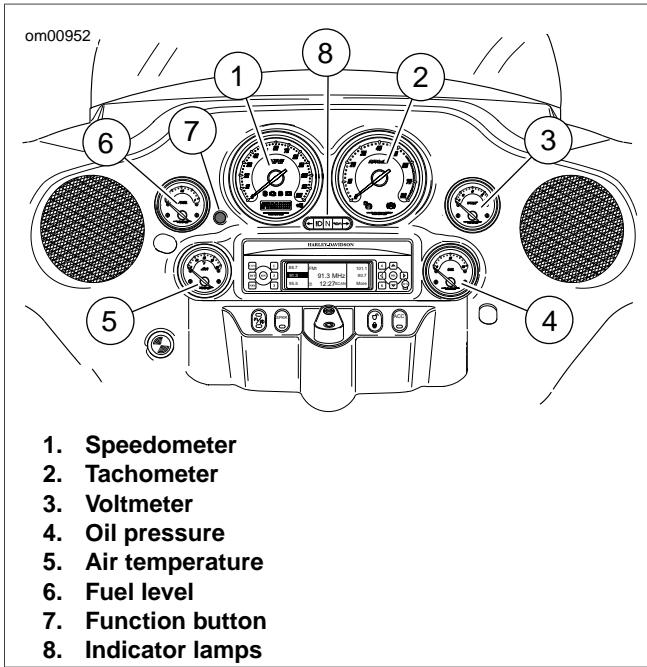

Figure 5. Instruments: FLHTCUSE3
See Figure 5. The speedometer (1) registers miles per hour (MPH) or, on International models, kilometers per hour (KPH).
See Figure 5. The tachometer (2) measures the engine speed in revolutions per minute (RPM).
See Figure 5. The voltmeter (3) indicates electrical system voltage and is found on the front panel of the fairing. With the engine running above 1500 RPM, the voltmeter should register 13-14.5 volts with battery at full charge.
See Figure 5. The oil pressure gauge (4) indicates engine oil pressure and is found on the front panel of the fairing. Engine
See Figure 5. The air temperature gauge (5) indicates the ambient air temperature in degrees fahrenheit. This gauge is found on the front panel of the fairing.
See Figure 5. The fuel gauge (6) indicates the approximate amount of fuel in the fuel tanks.